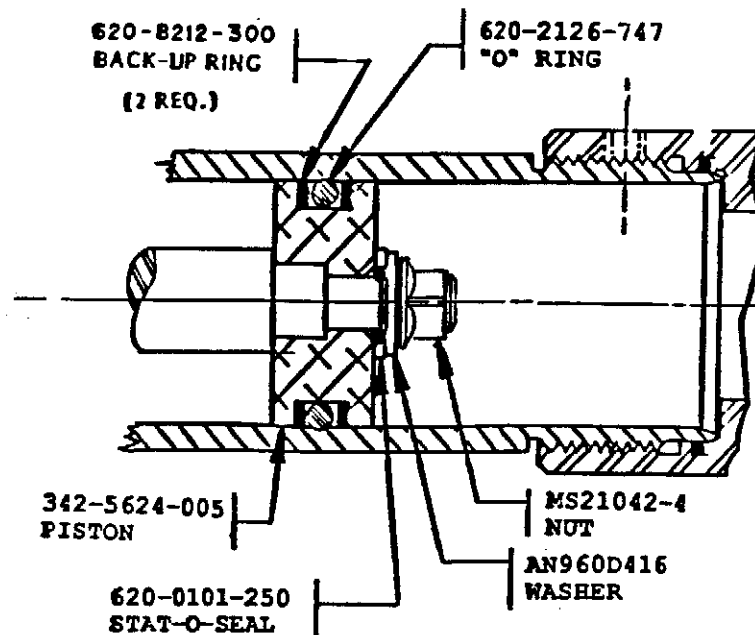

Figure 3: Original-Style Piston Assembly
**1) Original-Style Piston Assembly:** The most common style of piston is style in Figure 3. This style piston (1/2" thick) does not have an internal "O" ring and has an external "O" ring groove sized for an "O" ring plus two back-up rings.
Install the "O" ring (P/N 620-2126-747) and two back-up rings (P/N 620-8212-300) back-up rings onto the piston, as shown in Figure 3, making sure that the concave sides of the back-up rings are toward the "O" ring.